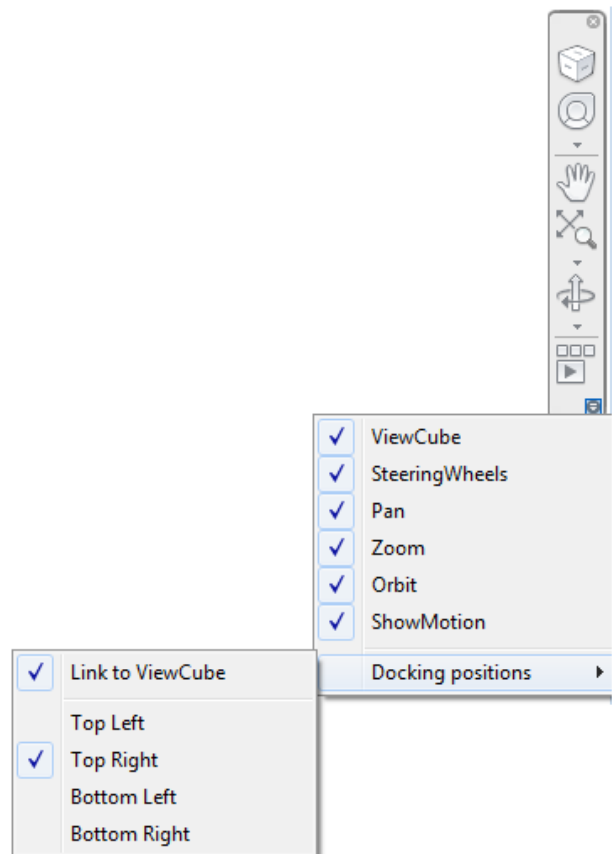

Figure Step 12
Step 12 Click the small arrow again located at the bottom of the Navigation Bar to pull down its menu. Click the Docking positions item to display the flyout menu. Ensure the enabled items match the figure. (Figure Step 12)